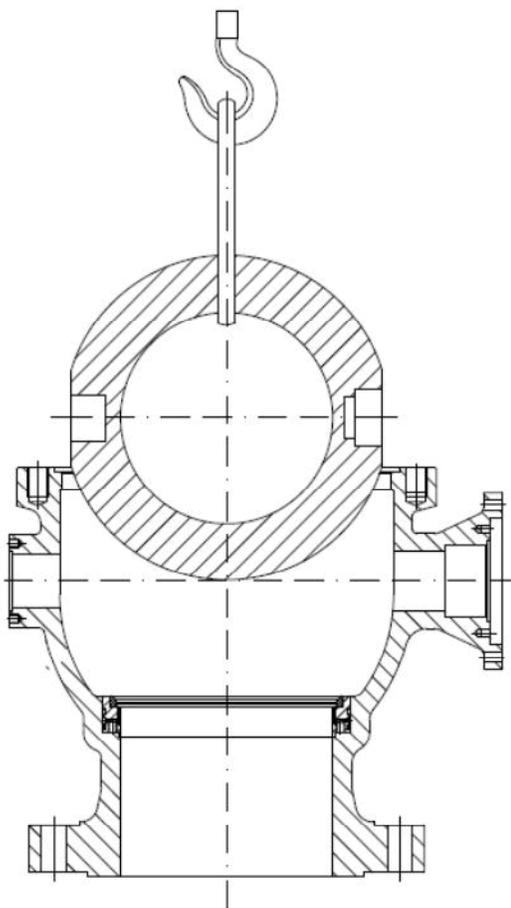

Figure 6
- 6.6 Remove the intermediate flange bolts (10, 11), valve seat (6) sub-assembly, and left upper valve body (8), and the pin from the supporting plate, see Figure 6.
- 6.7 Wrap up a rope with a piece of soft cloth and pass it through the ball (7) passageway. In doing so, the ball port or ball surface can be protected from scratches. Then hoist the ball as shown in Figure 6